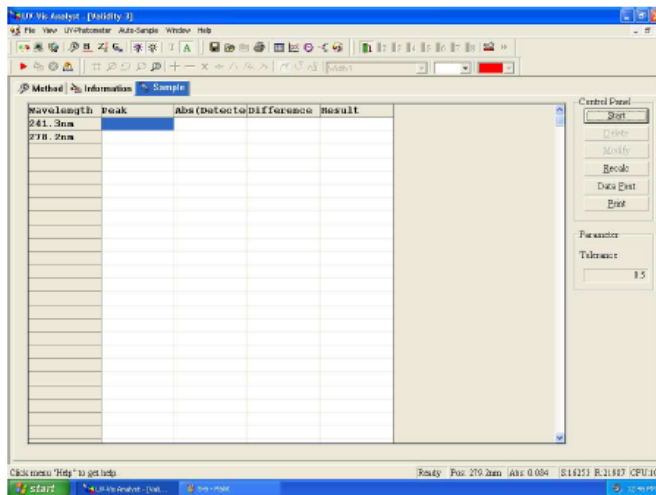

Fig. 5-6
10. Click the sample tab. Appears following form (fig 5-6).